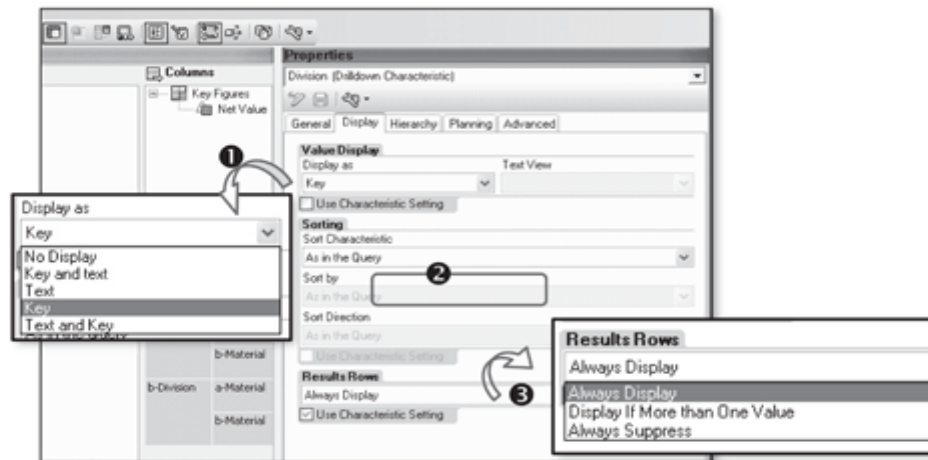

Figure 9.69 Characteristic Properties – Display Tab
You control the display-related settings of the characteristic in the query on this tab (see Figure 9.69). There are three sections available on this screen.
In the Value Display section, you can select the way characteristic values should be displayed (❶ of Figure 9.69). Also, in the Text View field, you can specify which text (short, medium, or long) should be displayed.